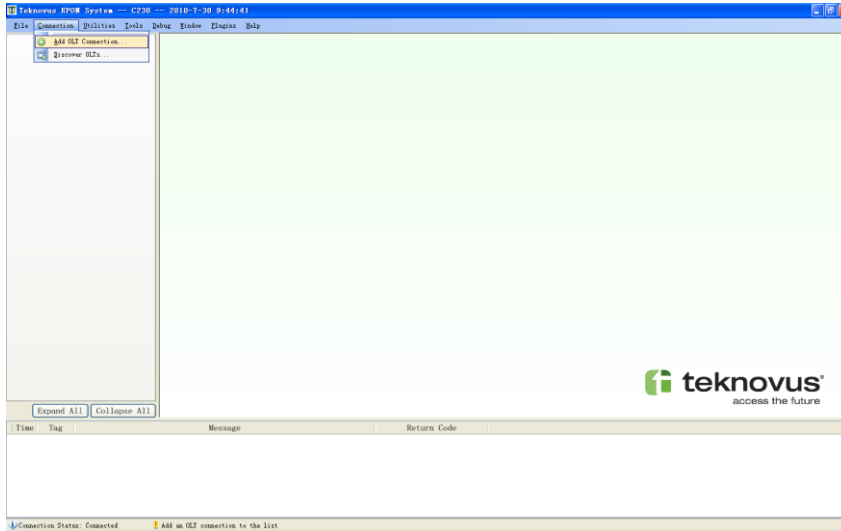

Figure 2-1 Add GUI Connection
- 1) Select Connection/Add OLT Connection from the main menu bar of GUI shown in the Figure 2-1.